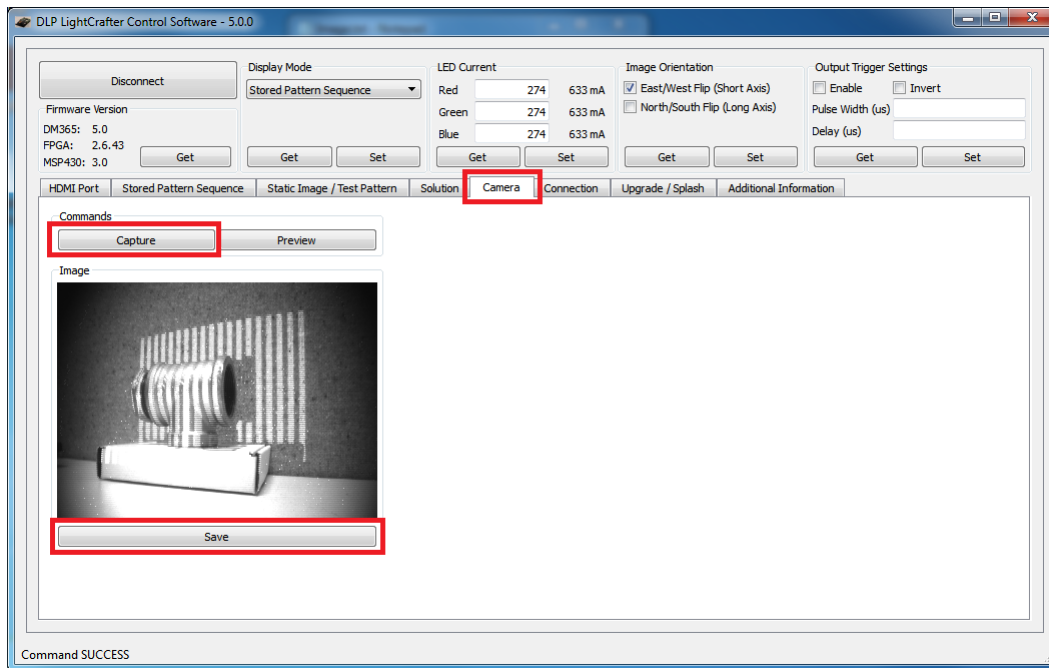

Figure 2-54. DLP LightCrafter GUI Camera Tab
1. Select the "Camera" tab as shown in Figure 2-54.